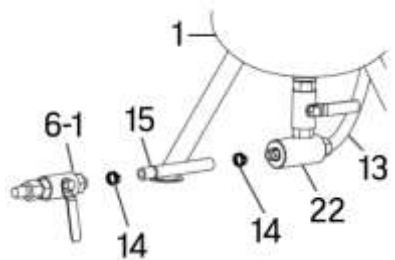

Fig. 6
11. Use another clamp to attach the other end of the abrasive hose to the abrasive outlet pipe (Fig. 6).
12. Connect the air hose to the abrasive outlet pipe (Fig. 6).